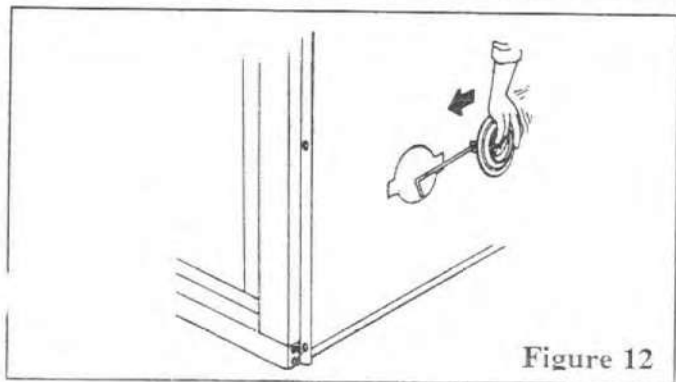

Figure 12
**STEP 2:** Remove the air inlet cover from the right-hand side of the case (Figure 12). Discard the cover. On some models, the cover may be of the "knock-out" type.
**STEP 5:** Insert the handle into the case as shown in Figure 12. Move the air gate assembly forward into position. Make sure the handle extends through the vertical slot in the front frame side (See Figure 46, Page 19).